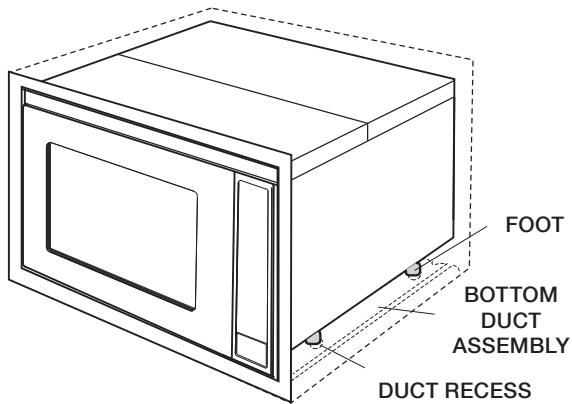

Figure 8
C. CABINET INSTALLATION: Avoid pinching the cord between the oven and the wall. Adjust the position of the oven so that the feet of the oven are fitted into the holes of the Bottom Duct Assembly. See Figure 8.